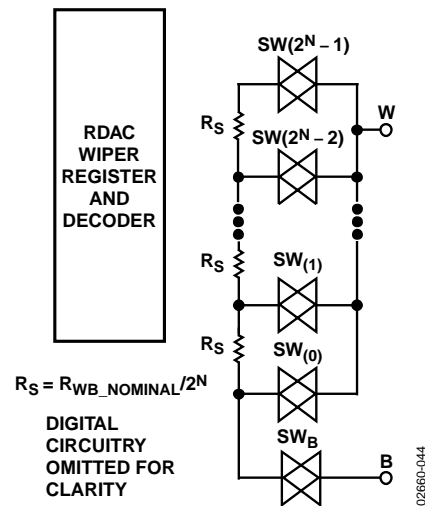

Figure 32. Equivalent RDAC Structure
The RDAC contains multiple strings of equal resistor segments with an array of analog switches that acts as the wiper connection. The number of positions is the resolution of the device. The ADN2850 has 1024 connection points, allowing it to provide better than 0.1% setability resolution. Figure 32 shows an equivalent structure of the connections among the three terminals of the RDAC. The SWB is always on, while the switches, SW(0) to SW(2N - 1), are on one at a time, depending on the resistance position decoded from the data bits. Because the switch is not ideal, there is a 30  $\Omega$  wiper resistance, Rw. Wiper resistance is a function of supply voltage and temperature. The lower the supply voltage or the higher the temperature, the higher the resulting wiper resistance. Users should be aware of the wiper resistance dynamics, if accurate prediction of the output resistance is needed.
The first connection of the wiper starts at Terminal B for Data 0x000.  $R_{WB}(0)$  is 30 Ω because of the wiper resistance, and it is independent of the nominal resistance. The second connection is the first tap point where  $R_{WB}(1)$  becomes 24.4 Ω + 30 Ω = 54.4 Ω for Data 0x001. The third connection is the next tap point representing  $R_{WB}(2)$  = 48.8 Ω + 30 Ω = 78.8 Ω for Data 0x002, and so on. Each LSB data value increase moves the wiper up the resistor ladder until the last tap point is reached at  $R_{WB}(1023)$  = 25006 Ω. See Figure 32 for a simplified diagram of the equivalent RDAC circuit.